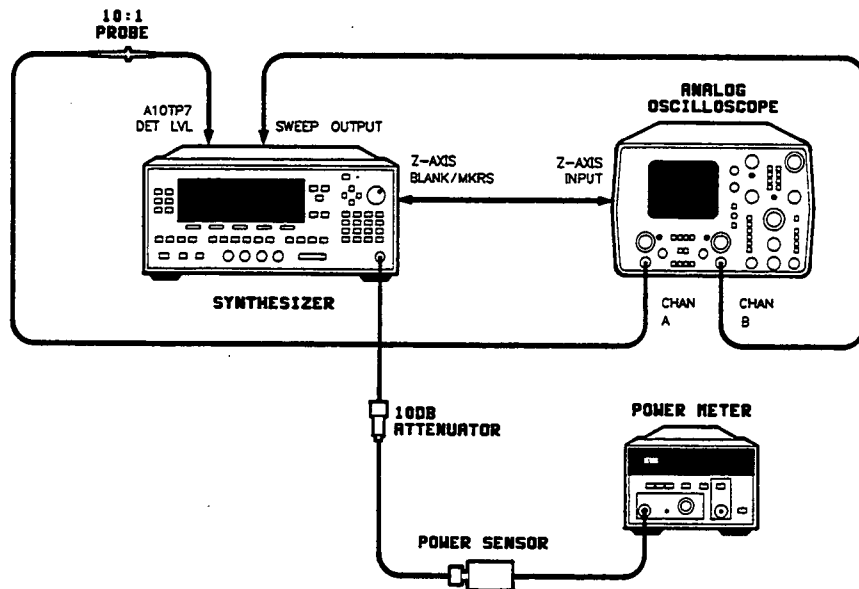

Figure 3-18. SYTM Adjustments Setup
1. Connect the equipment as shown in figure 3-18 using an analog oscilloscope with A versus B sweep capability. Do not connect the power meter yet. Power on all the instruments and let them warm up for at least one hour.